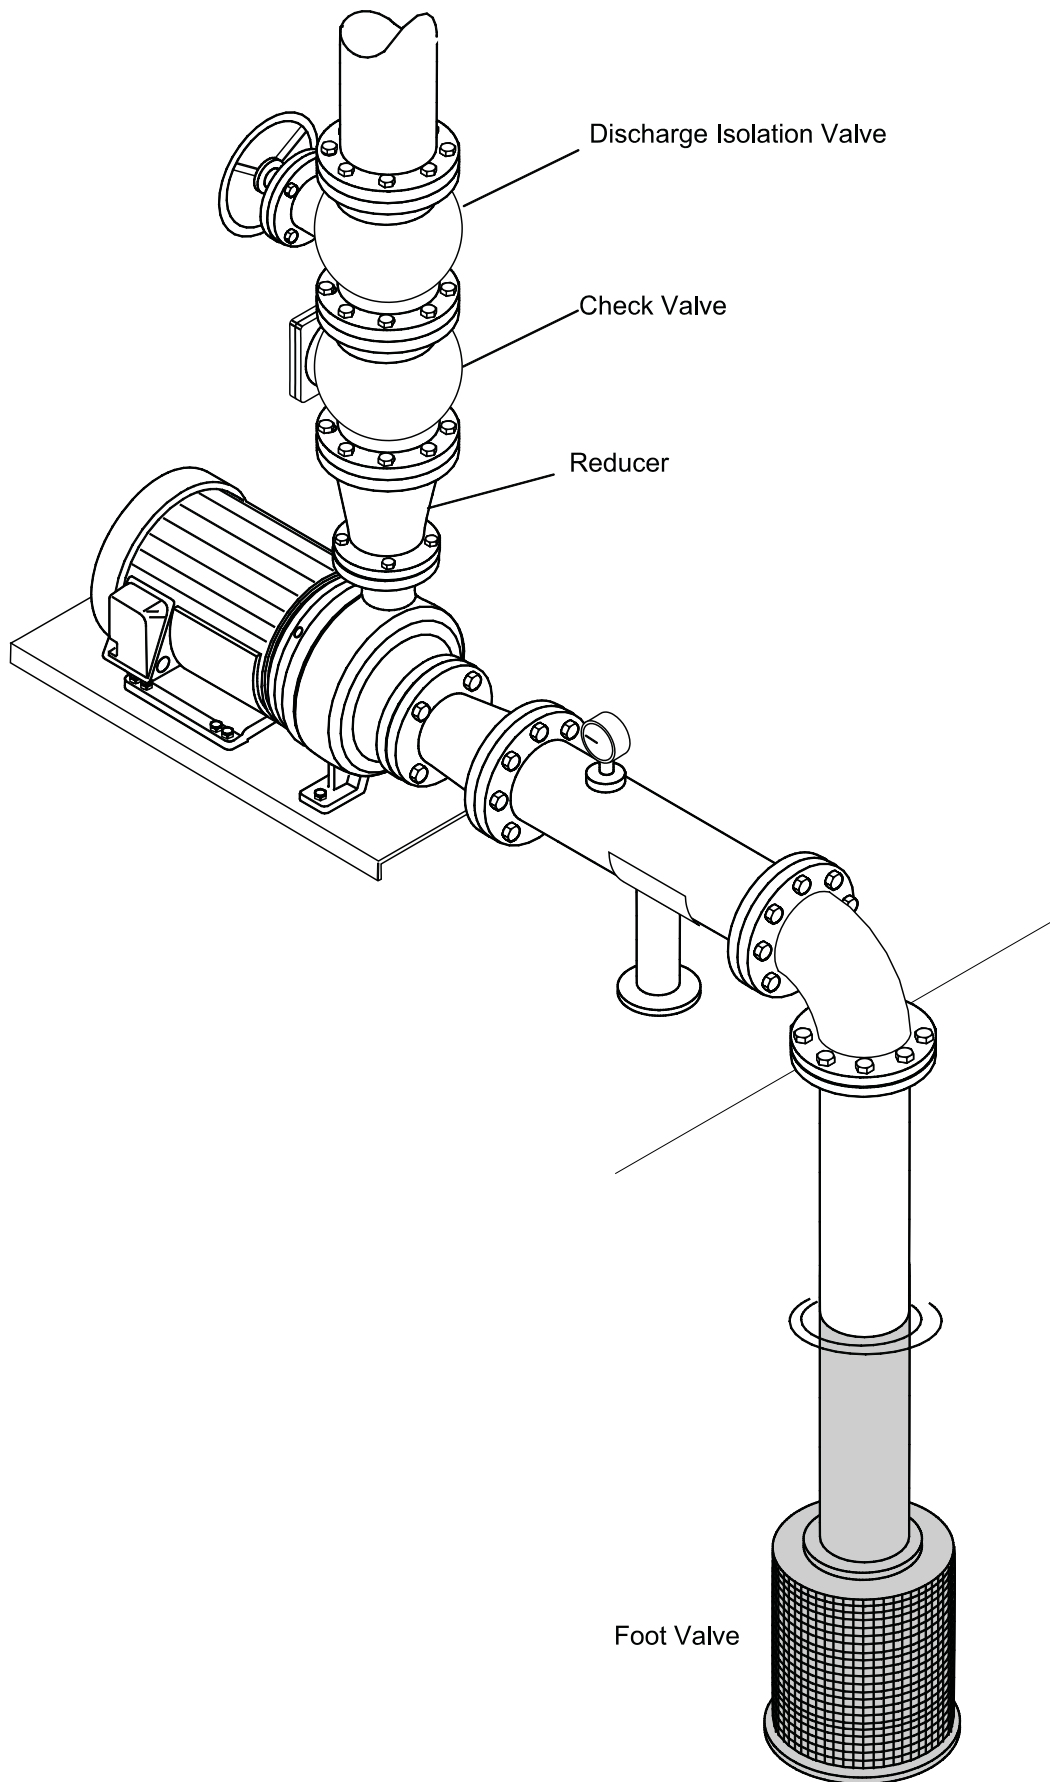

Fig. 11
1. Isolation and check valves should be installed in the discharge line. Locate check valve between isolation valve and pump which will permit inspection of check valve. An isolation valve is required for isolating, priming, regulation of flow, inspection and maintenance of the pump. A check valve prevents pump damage due to reverse flow when driver is turned off (Fig. 11).